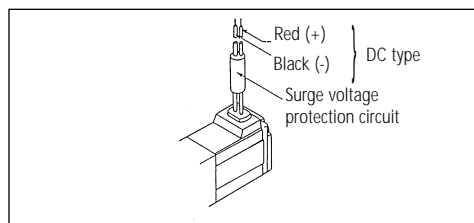

Fig 5
**Grommet Type Connector (Fig 5)**